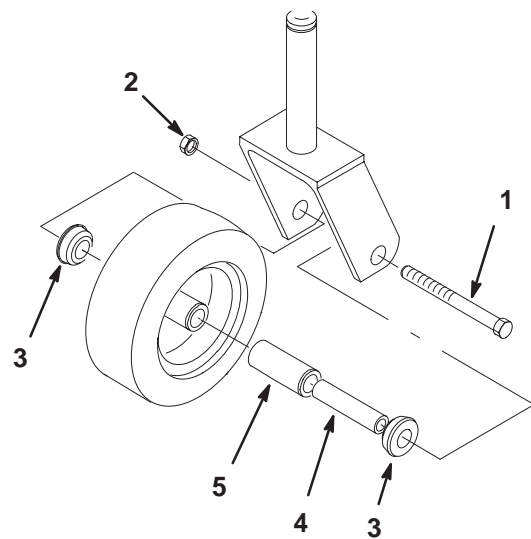

Figure 64
1. Remove the locknut and wheel bolt holding the castor wheel to the castor fork (Fig. 64).
2. Remove one bushing, then pull the spanner bushing and roller bearing out of the wheel hub (Fig. 64).
3. Remove the other bushing from the wheel hub and clean any grease and dirt from the wheel hub (Fig. 64).
4. Inspect the roller bearing, bushings, spanner bushing and inside of the wheel hub for wear. Replace any defective or worn parts (Fig. 64).
5. To assemble, place one (1) bushing into the wheel hub. Grease the roller bearing and spanner bushing and slide them into the wheel hub. Place the second bushing into the wheel hub (Fig. 64).
6. Install the castor wheel into the castor fork and secure with the wheel bolt and locknut. Tighten the locknut until the spanner bushing bottoms against the inside of the castor forks (Fig. 64).